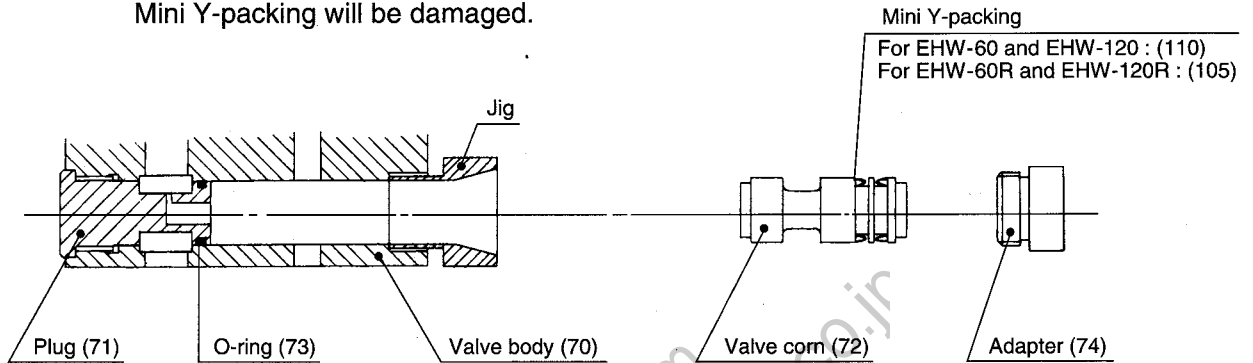

Fig. 12
Attach the jig to Valve body (70), then insert Valve cone (72) into Valve body (70) through the jig and press by hand until Valve cone (72) touches Plug (71). (See Fig. 12.)